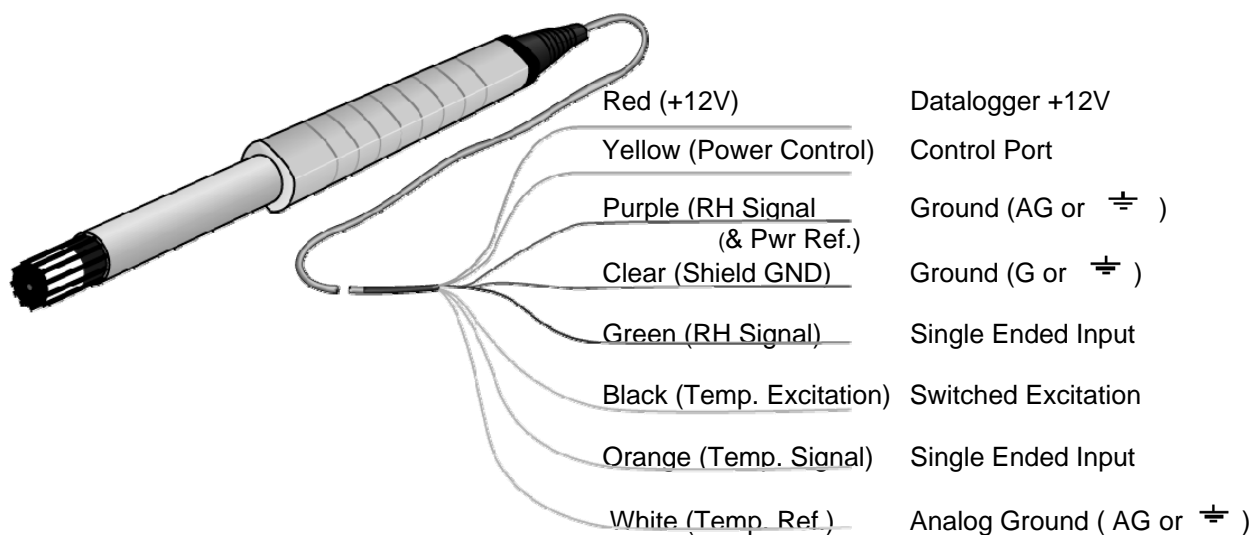

FIGURE 3. HMP45C212 Probe Datalogger Connection
Connections to the datalogger for the HMP45C212 are shown in Figure 3 and Table 1. The probe requires two single ended analog measurements, the green (RH) and the orange (temp.) leads can be inserted into either HI or LO inputs.